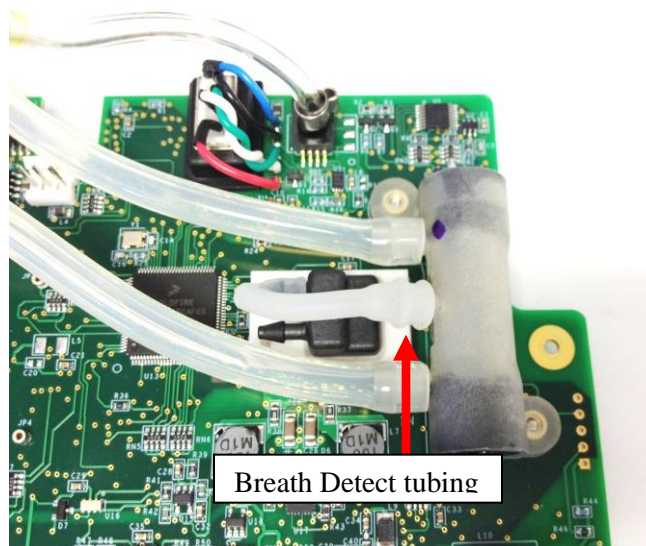

Figure 13: Disconnect tubing from oxygen sensor
6. Locate the breath detect on the motherboard and unplug its tubing from the oxygen sensor by pulling the tube off of the barb (Figure 13).
2. Plug the breath detect tubing onto the barb on the oxygen sensor (Figure 13).